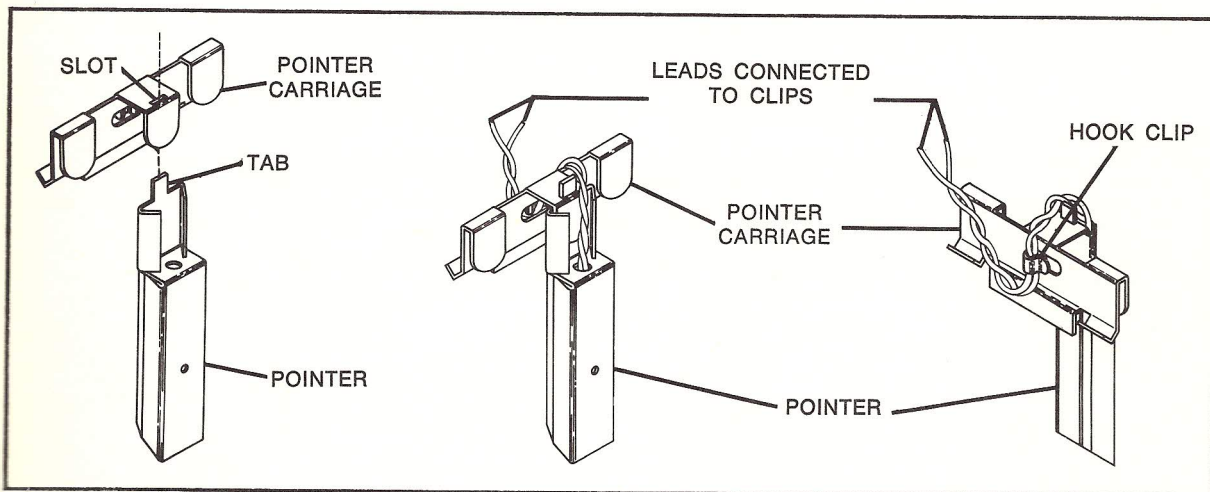

Figure 6. Dial pointer detail
(1) Remove the screws that secure the top cover to the rest of the unit and then lift off the cover.
(2) Remove the front panel and dial glass as described in the paragraph above. Unclip the wires of the dial-pointer light from the two terminals on the top side of the chassis, behind the front panel. Disengage the wires from the small hook clip on the rear of the pointer carriage. (See Figure 6 for carriage and pointer details.)
(3) Remove the dial pointer (bulb plus metal guard), by unbending the tab and sliding the pointer downward.
(4) Slide the new pointer (Part No. AS50451-2) upward, while pressing down on the carriage, until the pointer reaches its upper limit and its tab mates with the carriage slot. Secure the pointer by bending the tab.
(5) Twist the two wires together and slip them through the hook clip on the rear of the pointer carriage. *Be sure to avoid leaving any slack in the wires above the pointer.* (See Figure 6 for details.)
(6) Secure the clip ends of the two wires to the chassis terminals by pressing the clips over the terminals.
(7) Replace the dial glass, front panel, and cabinet top.